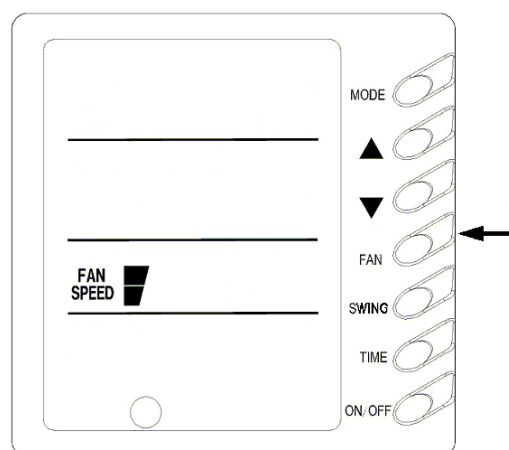

Fig.5
2) Fan Control (Fig.5 is about display region and the